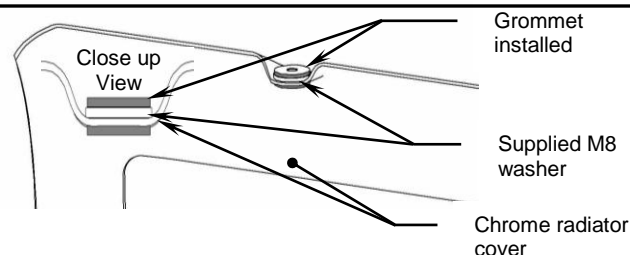

FIGURE 2
3. Place supplied M8 flat washer on the bottom side of the chrome cover and insert the stock grommet through the flat washer and hole in bottom of the chrome cover, Figure 2.